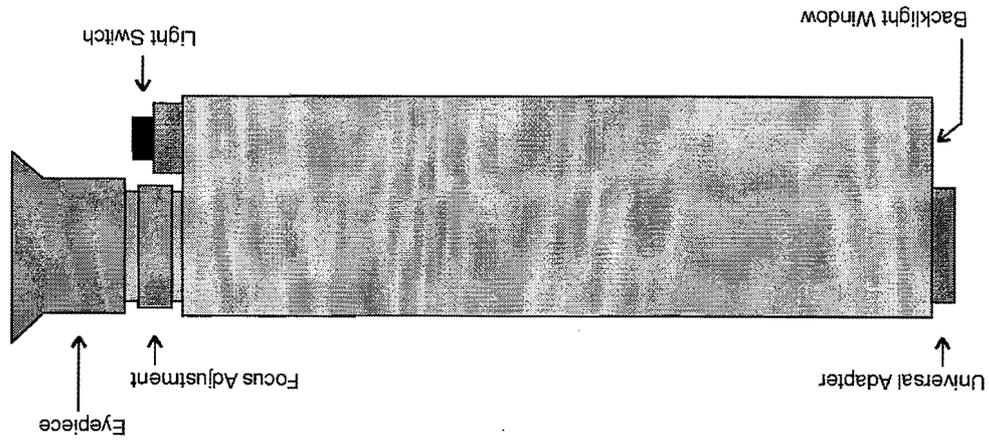

Figure 1
**2. Now turn the light on.** This unit is equipped with a "Momentary Light Switch", the lamp will remain on only when the switch is pressed. Using this type of switch will extend battery life. The light operates by pressing and holding the momentary Light Switch. You can tell if the light is on by checking the "Backlight Window" (Figure 1). The Fiber Microscope is ready for use if you see light through the backlight window.